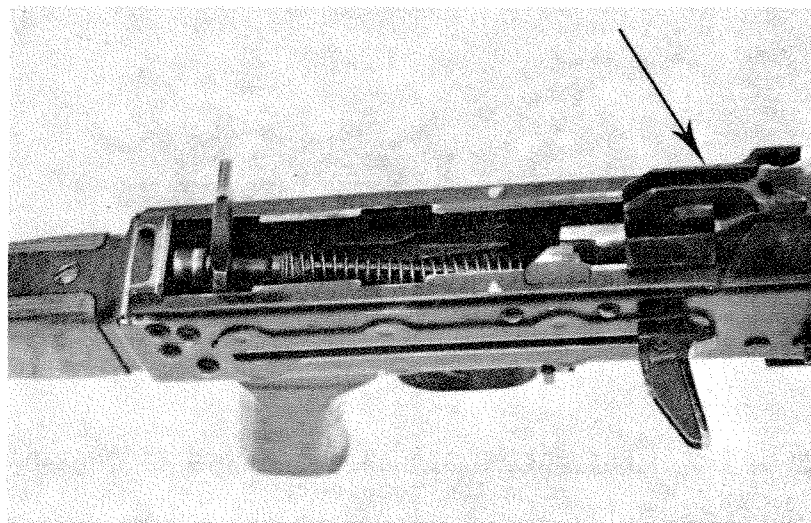
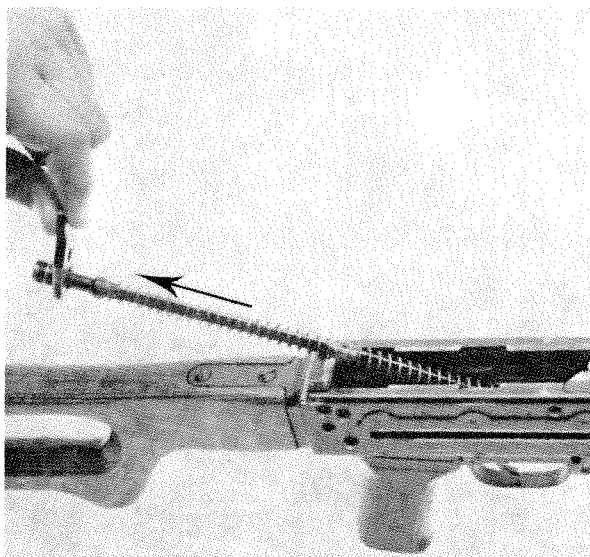

Figure 3-6. Cartridge space gripper and bolt in the forward position.
Figure 3-7. Retracting the guide rod and mainspring from the receiver.
f. With the ammunition feed tray cover raised, leave the cartridge space gripper and bolt in the forward position (fig. 3-6); grasp the guide rod and mainspring while pushing forward; extract the mainspring and guide rod (fig. 3-7)